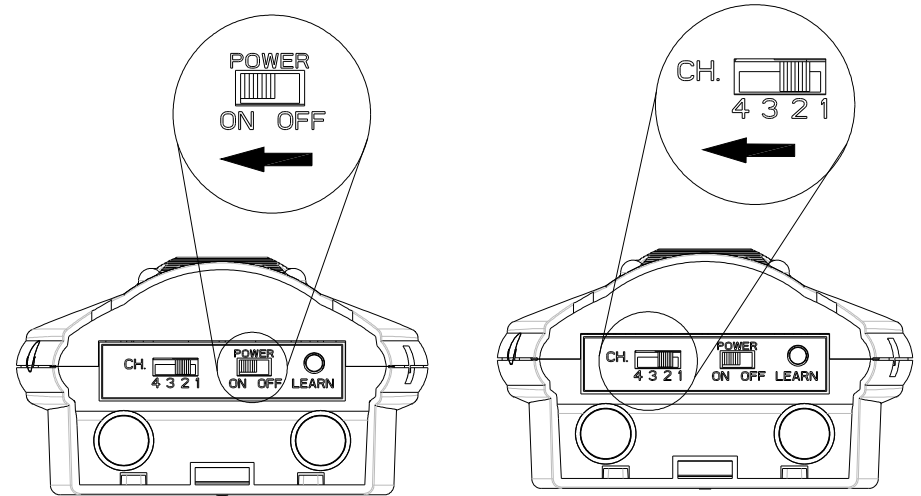

Fig. 9
1. The ON/OFF slide switch is for turning on and off the power. (Fig. 9)
2. Up to four cameras can be connected to the Monitor. Set the channel switch (numbered 1~4) that matches to that of the Monitor you plan to observe. (Fig. 9)